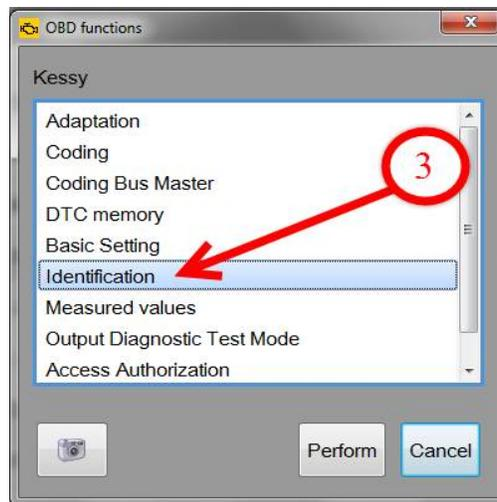

Figure 4. In the OBD functions menu, select **Identification** (3), then click **Perform**.
- Next, in the OBD functions menu, select **Identification**, then click **Perform** (Figure 4).